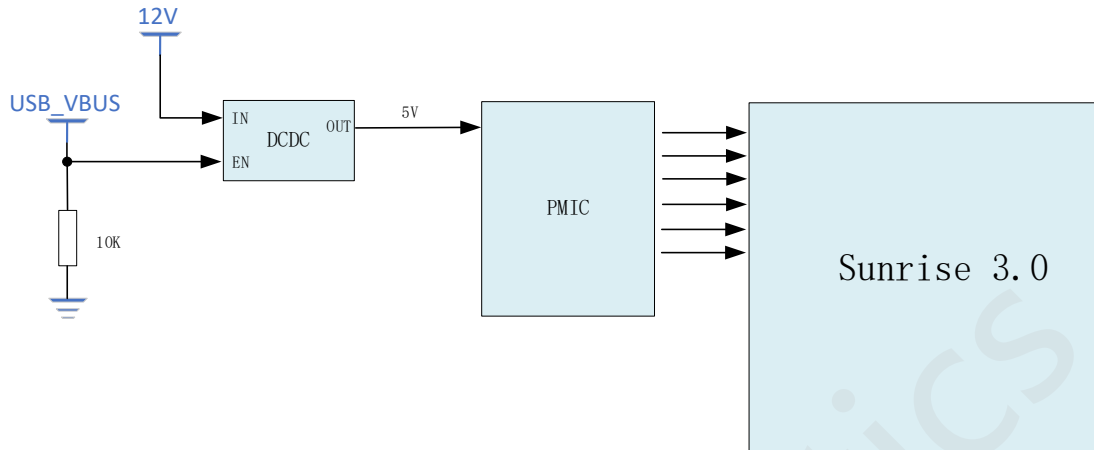

Figure 2-6 USB VBUS Controlled Power up for X3
**Solution B:** Use USB\_VBUS as enable signal to the X3's PMIC output. X3 will not power up without USB\_VBUS inserted. This is common in Smart USB Camera scenario. Please refer to the Figure 2-6 for this solution.